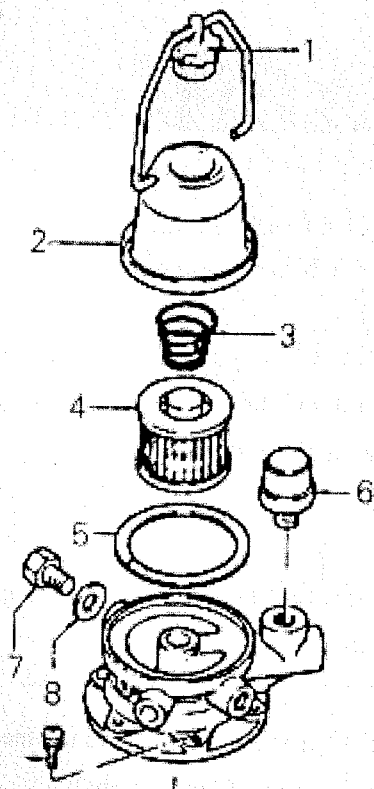

Fig 1-7
B) Fuel filter for gasoline engine (Refer to Fig 1-7.)
- Take off the oil drain plug 7 (Refer to Fig 1-7) and drain the gasoline in gas cup completely.
(2) Service of Diesel Engine Fuel Filter